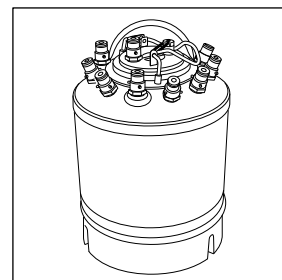

Fig. 19
- Fill the cleaning container (Fig. 19) with water.
- Connect all basic ingredient tubes/beverage tubes to the cleaning container (Fig. 19).